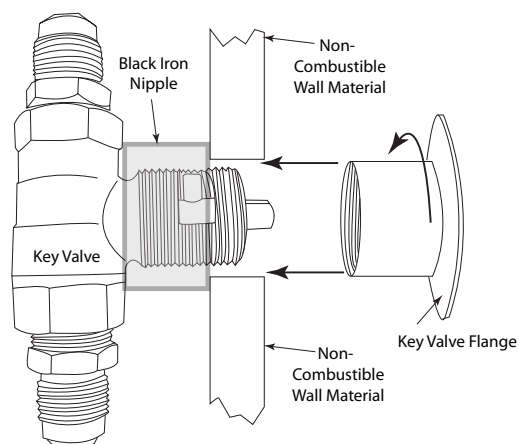

Fig. 8 Typical installations.
**Note:** Be sure to leak test all fitting before operation. Figures 8 shows an example of a typical installation.